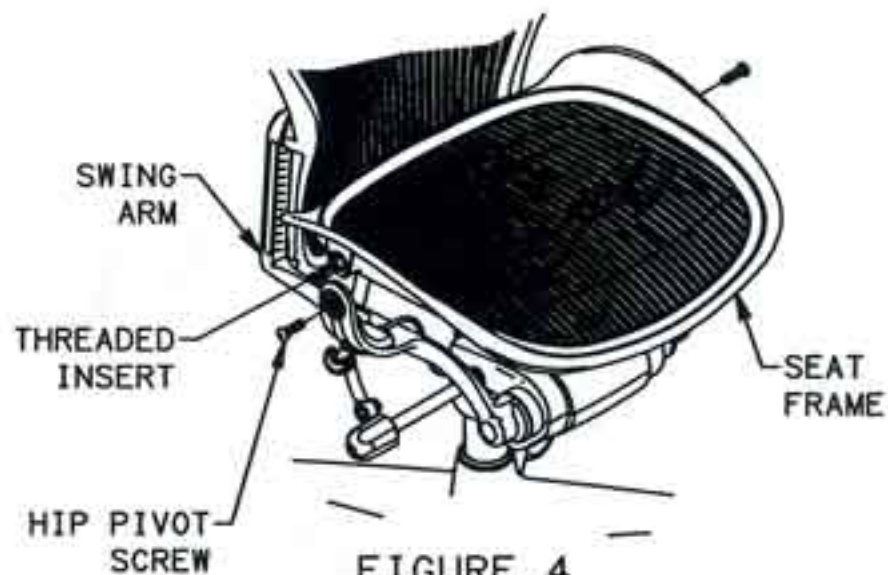

FIGURE 4
2. USE RATCHET WRENCH AND 6MM HEX BIT TO REMOVE HIP PIVOT SCREW FROM SWING ARM. IF THREADED INSERT TURNS WITH HIP PIVOT SCREW, STOP IMMEDIATELY AND DO FOLLOWING: TIGHTEN HIP PIVOT SCREW INTO THREADED INSERT AS MUSH AS POSSIBLE. USING QUICK JERKING MOTION WITH RATCHET WRENCH, BACKOUT HIP PIVOT SCREW. IF THREADED INSERT STILL TURNS WITH HIP PIVOT SCREW, REPEAT PROCESS. REPEAT FOR OPPOSITE SIDE AND REMOVE SEAT WITH ATTACHED SEAT LINKS. SEE FIGURE 4.
17. PLACE SEAT FRAME WITH ATTACHED SEAT LINKS BETWEEN SWING ARMS. INSERT SCREWS SECURING SEAT FRAME TO SWING ARM. TORQUE SCREW TO 175-225 IN-LBS. SEE FIGURE 4.